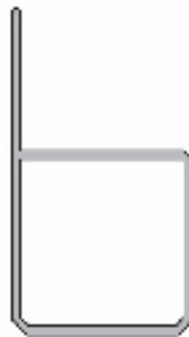
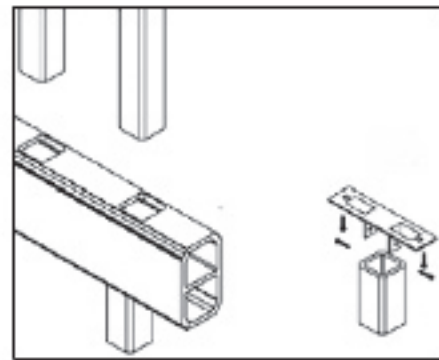

Figure 7. Aluminum Insert Orientation
Figure 8. Foot Block Installation
- 4.) Install Aluminum Insert (if required) and Install Foot Block Inserts. Slide in an aluminum insert into the 2" x 3½" bottom rail so that they will be in the orientation as shown in Figure 7 when installed. Center and screw one foot block insert onto the bottom of the bottom rail and another insert in between the posts on the walking surface as shown in Figure 8.